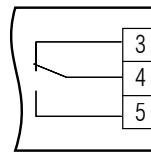

Fig. 5.4 Relay output
- The outputs should be wired in accordance with Fig. 5.4...5.10